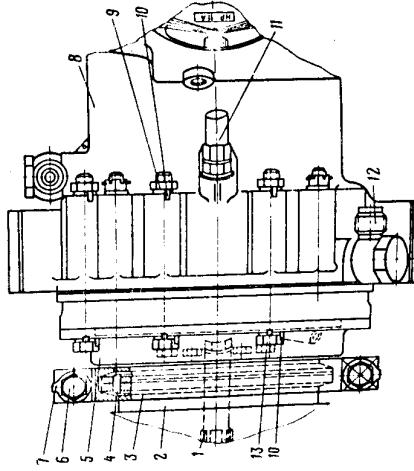

Fig.18. Installation of HP-11A Pump
12. Mount the quick release joint ring onto the flange of the HP-11A pump, as shown in Fig.18, having fitted a gasket under it. Insert the ring holding-down bolts after placing locking washers under the bolt heads. Turn the nuts, fitted with locking washers, on the bolts. Lock the nuts and the bolts with locking washers.